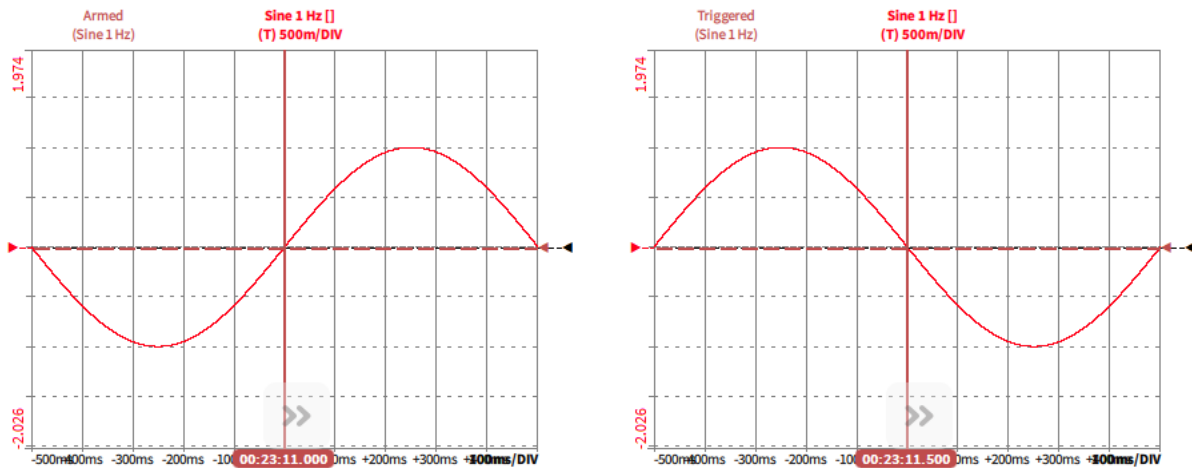

Fig. 8.36: Trigger on a *Rising* (left) and on a *Falling* (right) edge
- In the *Edge* selection, the user can select if the selected signal shall be triggered on a *Rising* or on a *Falling* edge. The difference between the two modes is shown in Fig. 8.36 for a 1 Hz sine wave that has an amplitude of 1.